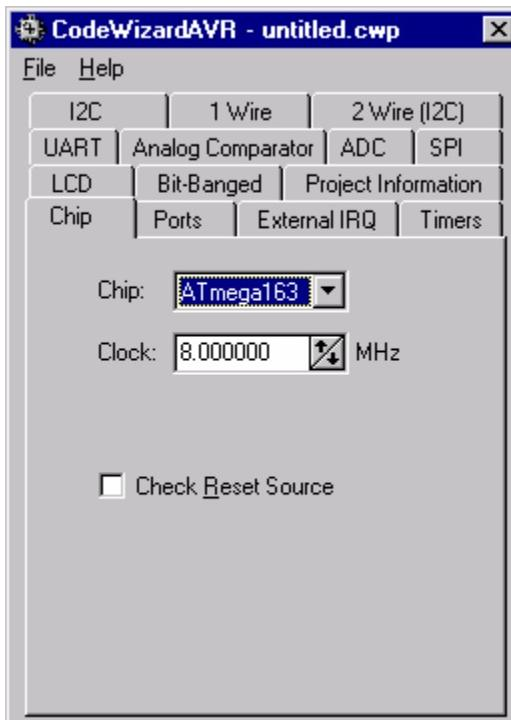

Figure 1 : Chip and Clock Select
- 3) Select the Chip and the Clock as shown in Figure 1